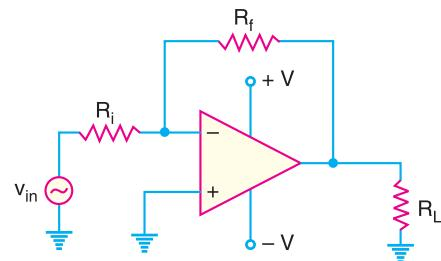

Fig. 25.67
**(ii) Inverting Amplifier.** Fig. 25.67 shows the inverting amplifier. It can be shown that :